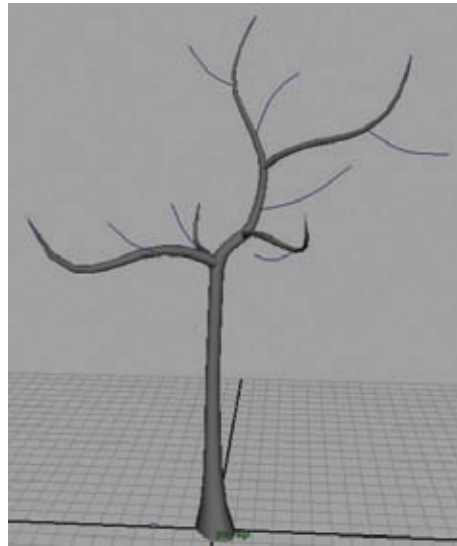

Figure 2.24
2. Duplicate this curve and position it around the tree. Scale them up and down slightly to ensure they aren't all identical. I placed about seven branches (Figure 2.24).